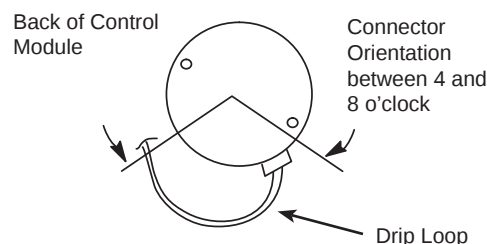

Figure 12. Drip Loop
- 5 - The electrical connectors of the motor should be facing down to form a drip loop (**Figure 12**). This will direct moisture away from the motor and its electric connections on the motor.